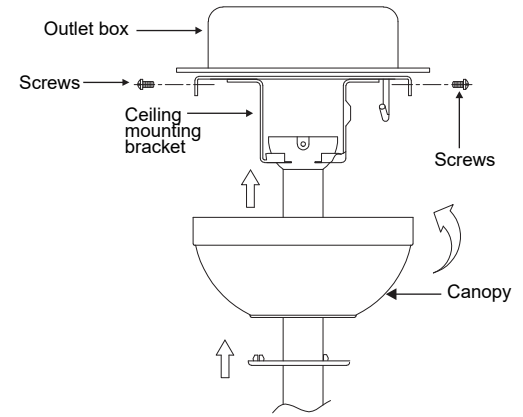

Fig. 15
Step 2. Slide the canopy up to ceiling and attach the canopy to the ceiling mounting bracket using 4 screws at the top edge of the mounting bracket. Insert each screw through the canopy mounting hole and into the mounting bracket. Tighten all screws securely. (Fig. 15)